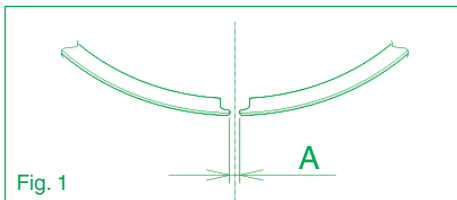

Fig. 1
- c) using a feeler gauge, measure the gap at piston rings ends; minimum gap:  $A = 0.15$  mm see fig. 1.